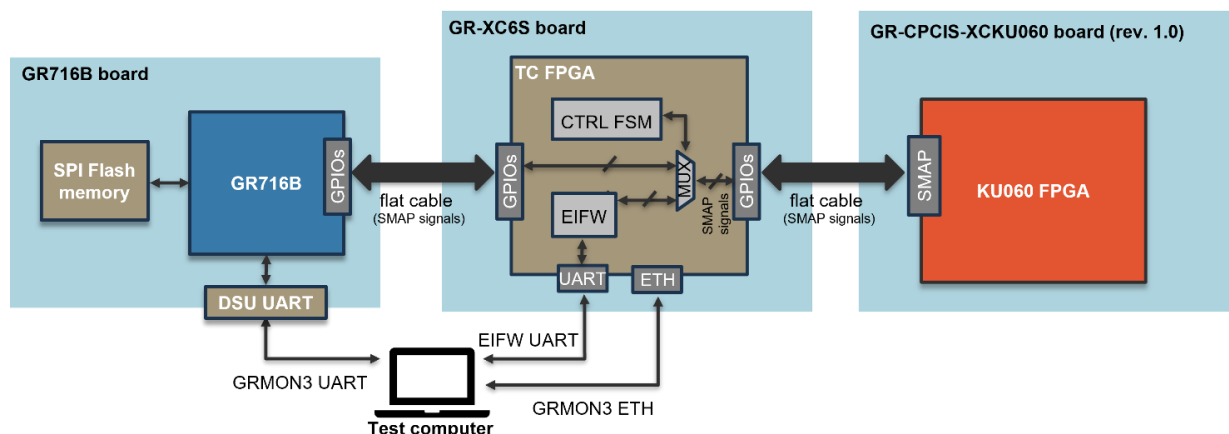

Figure 6. Block diagram of error injection in Setup I: GR-XC6S board connected between the GR716B board and the GR-CPCIS-XCKU board.
In order to use the EIFW in Setup I, an external FPGA has been added to the system. A GR-XC6S board, featuring an AMD/Xilinx Spartan-6 FPGA, is used as a test controller (TC) to implement the EIFW engine and manage a multiplexing of the SelectMap signals. Since both GRSCRUB and the EIFW use the SelectMap to access the FPGA configuration memory, they cannot be used in parallel. Therefore, the GR716B GPIOs have been connected to the GR-XC6S board, and the signals are routed through the TC FPGA. An I/O header from the TC FPGA is connected to the SelectMap interface of the KU060 on the GR-CPCIS-XCKU board. The I/O signals are multiplexed between the GR716B and the EIFW. Figure 6 shows the block diagram of the test setup.